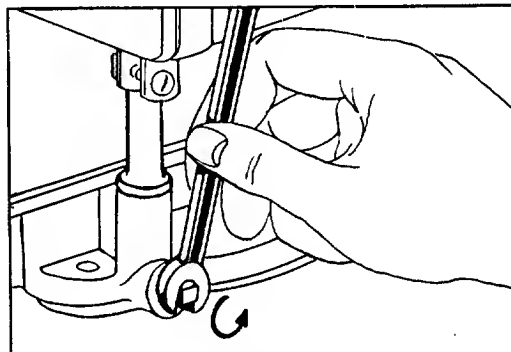

FIGURE 15. OIL DRAIN
After the first five hours of operating a new engine, drain the oil (see figure 15) from the crankcase while engine is still hot and refill crankcase with new oil; thereafter change the oil every 25 hours of operation. This procedure ensures for minimum wear of engine parts and provides for virtually trouble-free operation. To change the oil, proceed as follows:
- Step 1. With the machine on level ground, place a suitable metal container under the oil drain plug, then remove the drain plug. See figure 15.